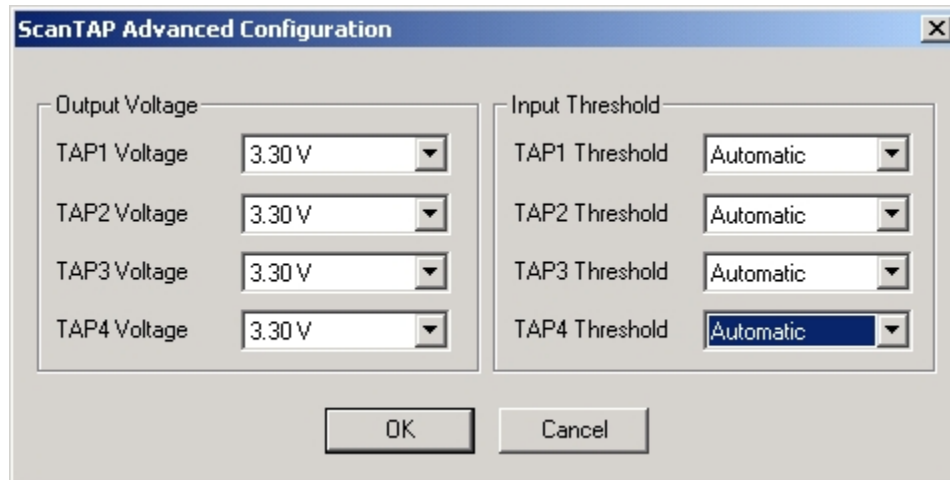

Figure 4-4. Advanced Configuration Setup Screen
7. The **Advanced** button can be used for selecting different voltage settings for each individual TAP. While most targets with multiple TAPs use the same voltage settings for all the TAPs it is not uncommon to find targets that use, for example, the 3.3 V setting for one TAP, 2.5 V for another, and 1.8 V for one or two additional TAPs. The Advanced Configuration screen is shown in Figure 4-4.